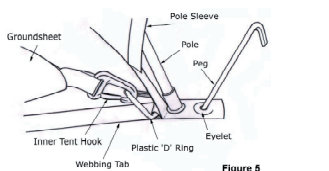

Figure 5
6. Gather up the inner tent, ensuring that its door is closed, and take it inside the flysheet. Start at the rear edge of the inner and clip the hooks that are on the corners of the groundsheet to the "D" rings located on the edge of the flysheet (see figure 5).